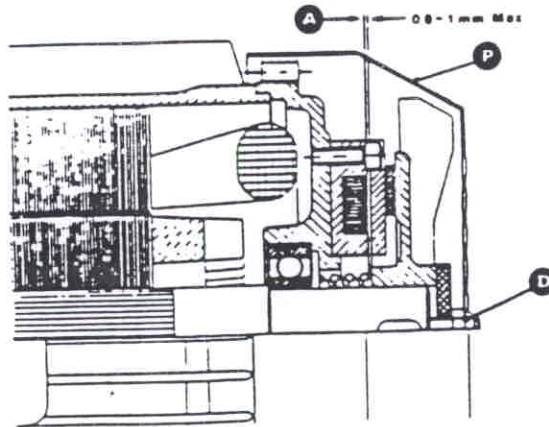

Fig.64
Periodically check and if necessary adjust the braking electromagnetic device (See fig.64)
Distance (A fig.64) between electromagnet (B) and mobile core (C) is called "air gap" and is adjusted during device construction. Adjustment is required only in case of replacement of mobile core (C) having glued to its surface a brake disk of friction material being subject to wear (F).